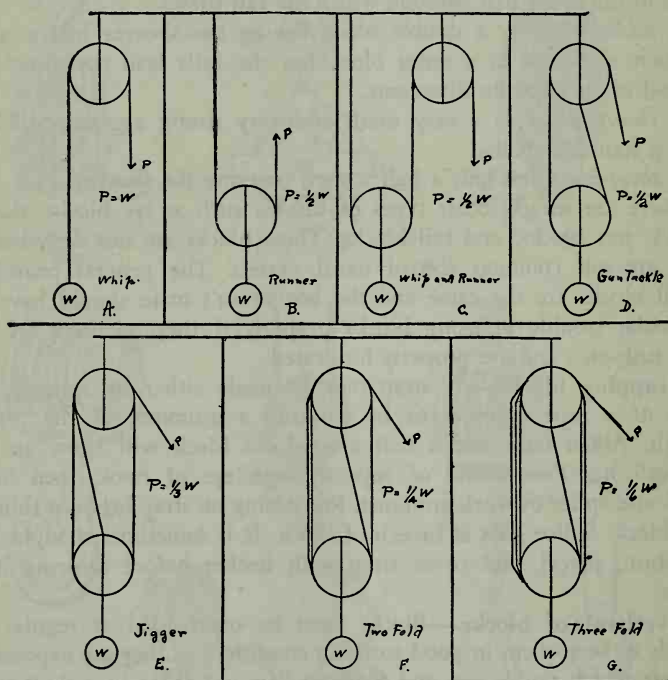

FIG. 48-3—Tackles.
**Tackles.**—There are many types of tackles, their names depending on the number and method of use of the blocks, but any type may have a special name derived from its use. The types usually seen on board ship are as follows (see Fig. 48-3):